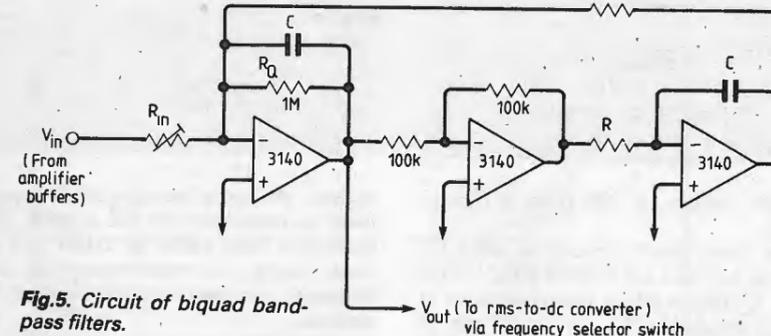

Fig. 5. Circuit of biquad band-pass filters.
**Bandpass filters.** The biquad type of filter allows the various parameters to be easily selected. Referring to Fig. 5, the centre frequency,  $\omega_0$ , is  $\omega_0 = 1/RC$ , the  $Q$  (-3dB) is  $R_Q/R$  and the passband gain  $G$  is  $R_Q/R_{in}$ . Each of the six filters comprises two integrators and an inverter in a loop, which combination behaves as a parallel tuned circuit with an artificial inductance  $L$  given by  $R^2C$ . The calculated  $Q$  ( $R_Q/R$ ) gives the -3dB bandwidth as  $f_0/Q$ , and the effective bandwidth for white noise is  $\pi/2$  times this (found by integration of the filter transfer function over all frequencies).10
Each filter input resistor ( $R_{in}$  in Fig. 5) is made variable to aid calibration. If a broadband noise generator of known spectral noise density is available, then this can be used to set up the filters. Otherwise, the best method is to measure the -3dB points and then scale the peak gains accordingly: that is,  $Gain = 100/\sqrt{B_{-3dB}}$ . The "CAL IN" socket provides buffered unity gain to the filters, the gain control being inoperative if this is selected.